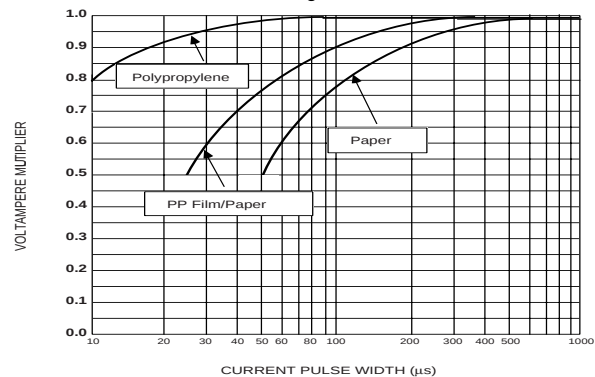
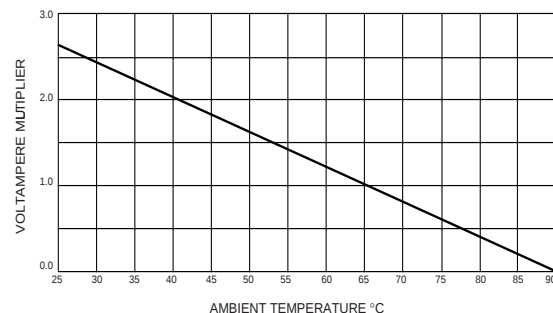

Figure 2
Figure 3
4. Check that your application's volt-amperes is not more than the capacitor's VA capability. The VA capability is the max VA rating times the Volt-Ampere multiplier from Figure 2 (Current Pulse Width) and that times the Volt-Ampere Multiplier from Figure 3 (Ambient Temperature). See the following section for more on using voltampere multipliers
The capacitors maximum VA rating is the maximum product of the sinewave voltage and current that may be applied at 65 °C without overheating the capacitor and reducing its expected life. For other temperatures and pulsed current, use the multipliers of Figures 2 and 3 to derate the Max VA rating.